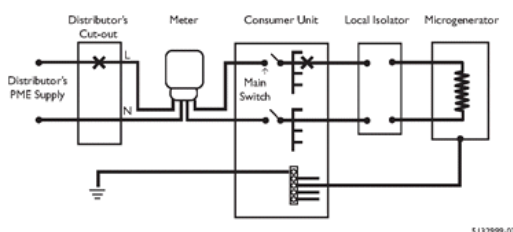

Fig. 12
8. Two labels (Figs. 12 & 12a) are provided to be placed at:-